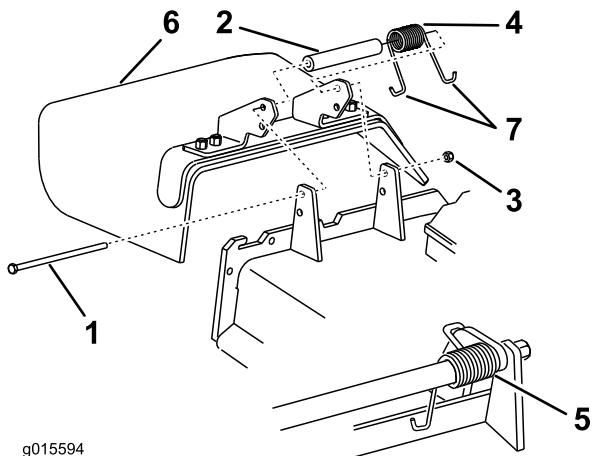

Figure 90
1. Remove the locknut, bolt, spring, and spacer holding the deflector to the pivot brackets (Figure 90).
Note: Make sure 1 J-end of spring is installed behind deck edge before installing the bolt as shown in Figure 90.
6. Place 1 J-hook end of the spring around the grass deflector (Figure 90).